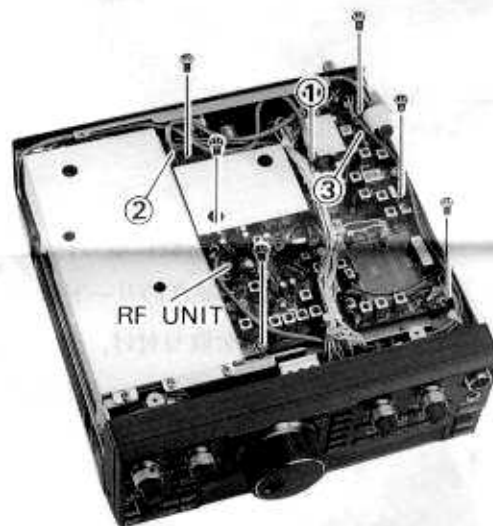

Figure 2: RF Unit Location
- Disconnect the light-blue-banded coaxial cable from J2026 near the rear of the exposed RF Unit (#1 in Figure 2).
- Unplug the yellow-banded coaxial cable from J2024 near the rear corner of the RF Unit (#2 in Figure 2).
- Using a small sharp tool, gently pry up on either side of J2011, the white plastic ribbon cable socket near the rear left corner of the RF Unit (#3 in Figure 2), about 2 mm ($\frac{1}{8}$ inch), until the ribbon cable can be removed (see Figure 3).
- Remove the six screws indicated in Figure 2 (one is inside the large shield housing, accessible through the hole near the corner).
- Replace the six screws removed from the RF Unit (Figure 2), and replace the coaxial cables (#1 and #2 in Figure 2): the yellow-banded cable goes in J2024, and the light-blue-banded cable goes in J2026.